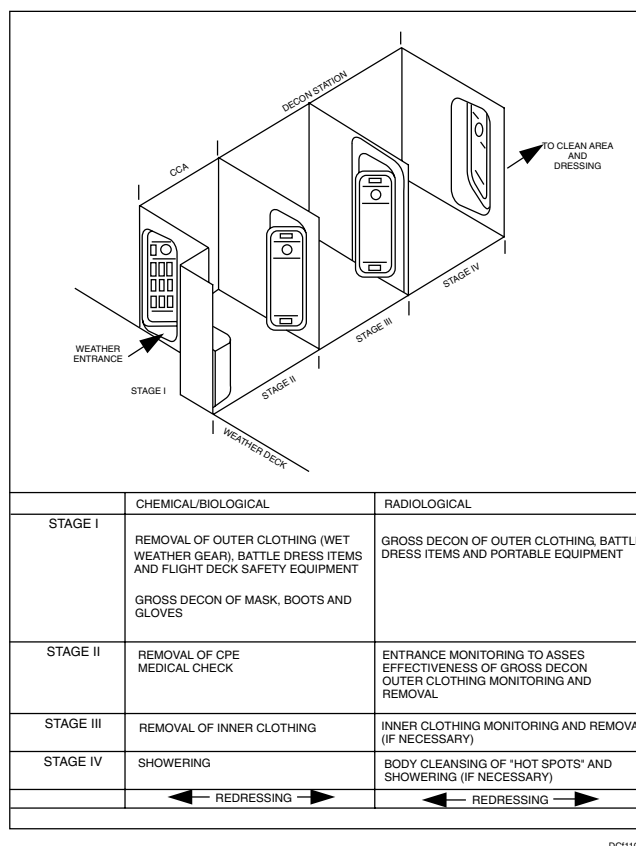

Figure 11-8. CCA/decontamination station for CPS-equipped ships.
Ships that have a Collective Protection System (CPS) (fig. 11-8) with Total Protection (TP) zones have a dedicated four-compartment decon station with access to the weatherdeck in each TP zone. This type of facility is referred to as a CPS decontamination station. There are differences in the extent of CPS coverage on different classes or flights of ships and even among ships of the same class or flight. It is possible for a ship with partial CPS coverage to have both CPS and conventional decon stations. For further information refer to *NSTM*, chapter 070.